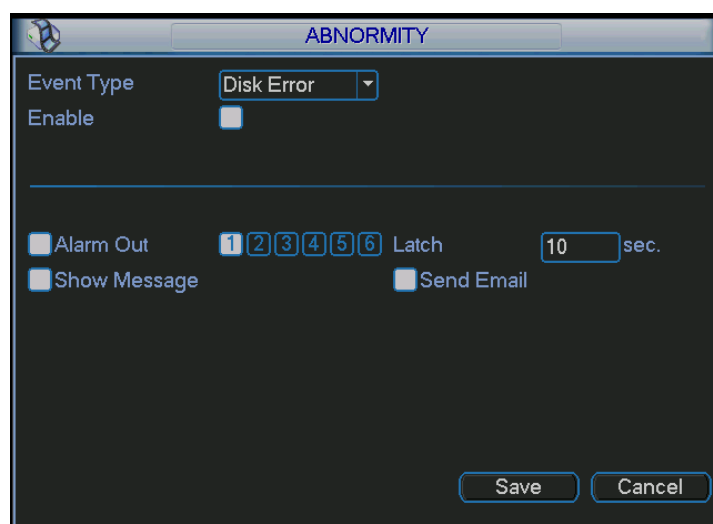

Figure 5-101
- Alarm set: Click alarm set button, the interface is shown as below. See Figure 5-101. (This interface is just like the abnormality setup). Please refer to chapter 5.9.4 for detailed information.